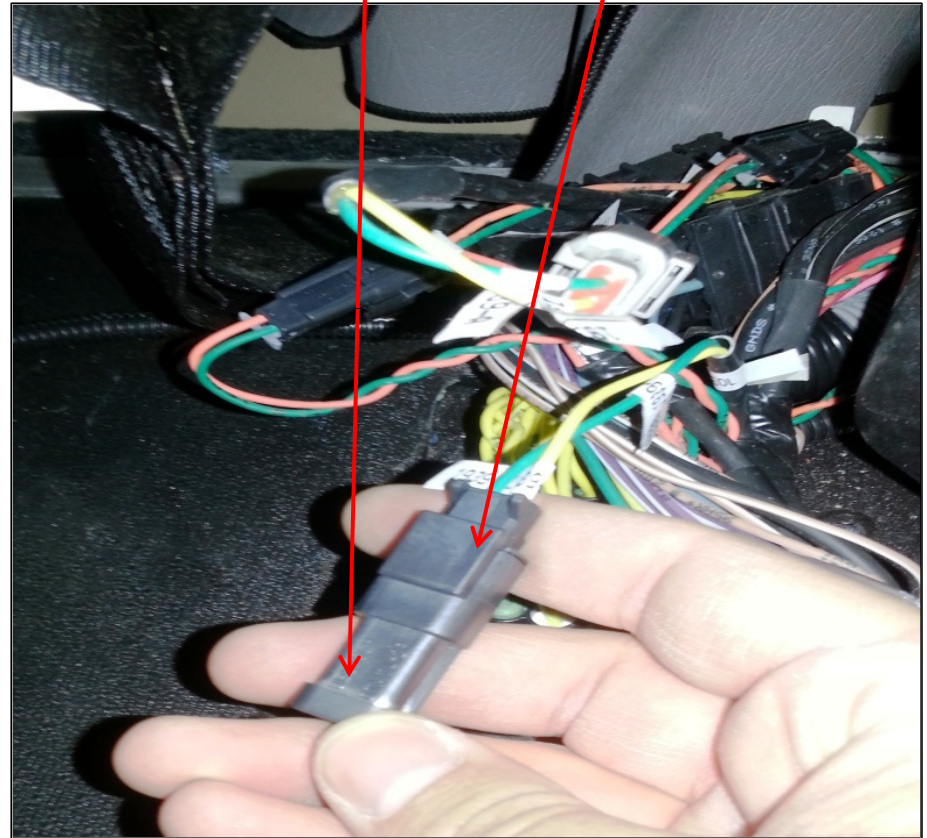

Figure 2
4. Route J1939 wires to "Terminating Resistor" located at "B" pillar under seat belt recoil cover, shown in "Figure 2".